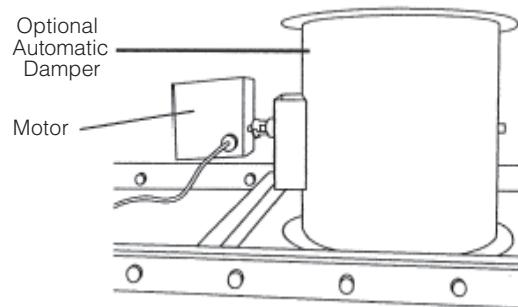

Figure 3-40. Position Optional Automatic Damper on Top of Cabinet
2. Silicone around and between damper bolt holes. Securely attach damper to top of cabinet with motor (electrical connection down) pointing toward service side of cabinet (see Figure 3-40).